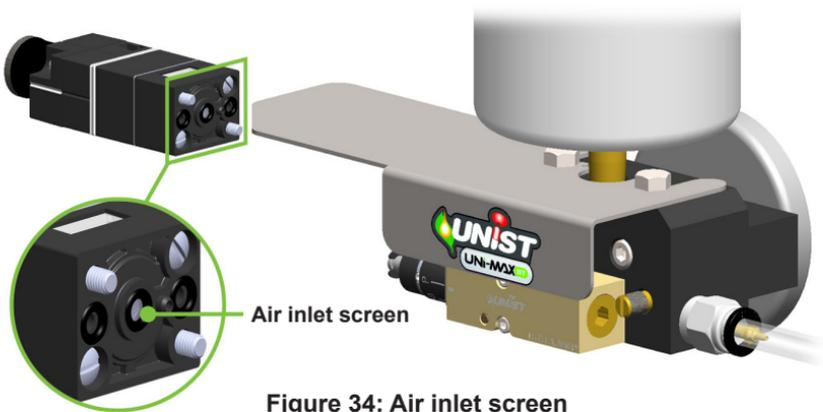

Figure 34: Air inlet screen
- If using a pneumatic pulse generator, inspect the inlet screen for debris and clean if necessary. See Figure 34 (pg. 37).